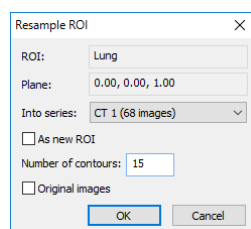

Figure 248 – Resample ROI dialog
2. Select the ROI to be resampled in the ROI list, and click the **Resample...** button. The **Resample ROI** dialog is then displayed (see Figure 248).